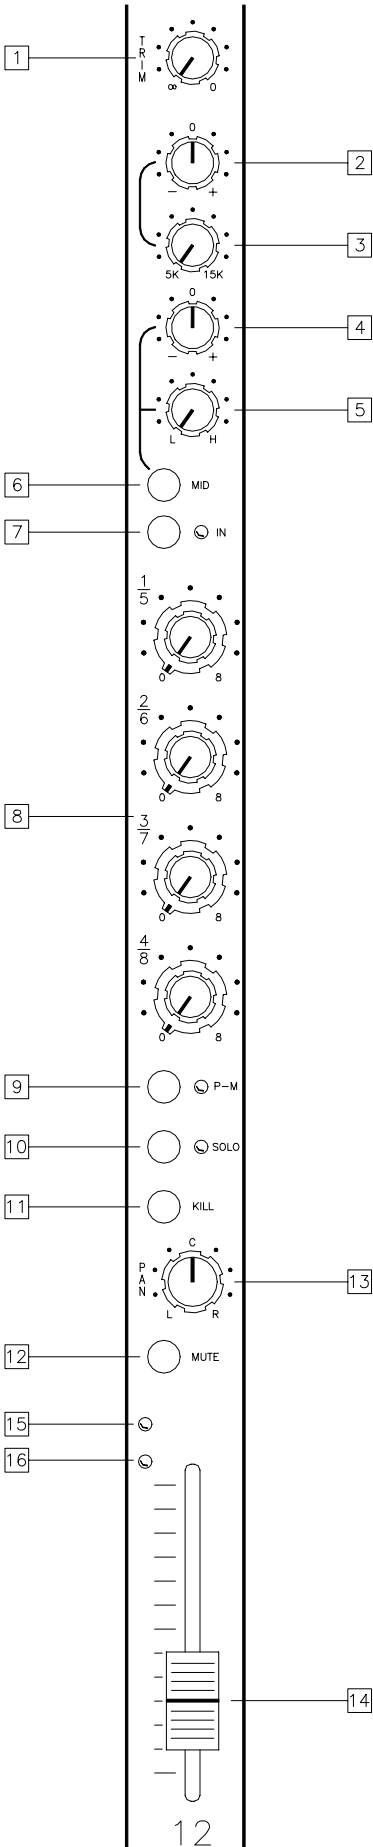

Figure 3. Input Channel
Refer to Figure 3 for location of items 1 thru 16.